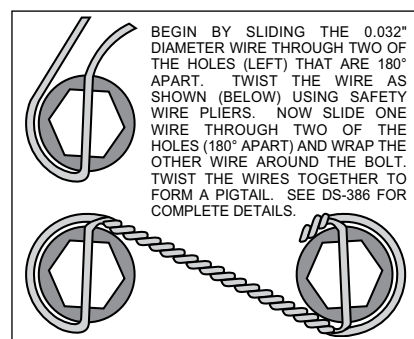

Figure 5. Safety Wire Diagram
- With the larger I.D. side of the rotor (4) facing away from the hat (3), bolt rotor (4) to hat (3) through the backside of the rotor using washers (5) and bolts (6). Apply red *Loctite*® 271 to the bolt threads and torque to 155 in-lb using a criss-cross pattern. For an added measure of security, the bolts may be safety wired using standard 0.032 inch diameter stainless steel safety wire as shown in Figure 5. Please refer to Wilwood's data sheet DS-386 (available at [www.wilwood.com/Pdf/DataSheets/ds386.pdf](http://www.wilwood.com/Pdf/DataSheets/ds386.pdf)) for complete safety wire installation instructions.
- Slide the rotor registration adapter (18) onto the axle register on the axle flange with the smaller O.D. facing toward the rotor/hat (3). Align the correct hole pattern in the hat with the stud pattern on the axle flange. **NOTE: Some OEM and aftermarket axles come with stud sizes larger than 0.50" diameter.** Verify stud size and have a qualified machine shop drill the hats to the correct size, if necessary. Slide the hat/rotor assembly (3 and 4) over the wheel studs covering the bracket kit assembly (1) and against the axle flange face.